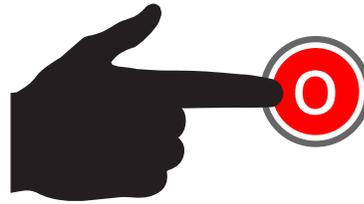

Figure 171. Stop Button
6. On generator #1, press the **STOP button** (Figure 171) on the touch display. The engine will shut down after a 30-second cool-down period.